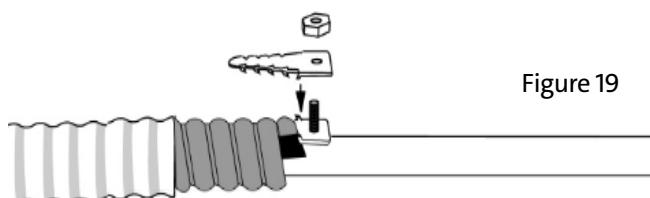

Figure 19
- If necessary, slit the outer sheath to accommodate the top plate. Place the top plate over the base plate and tighten it down with its lock nut (Figure 19). A few light taps on the top plate may help seat the teeth of the clamp.